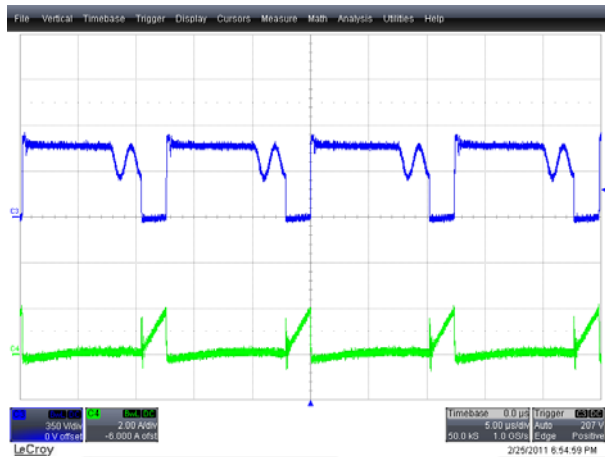
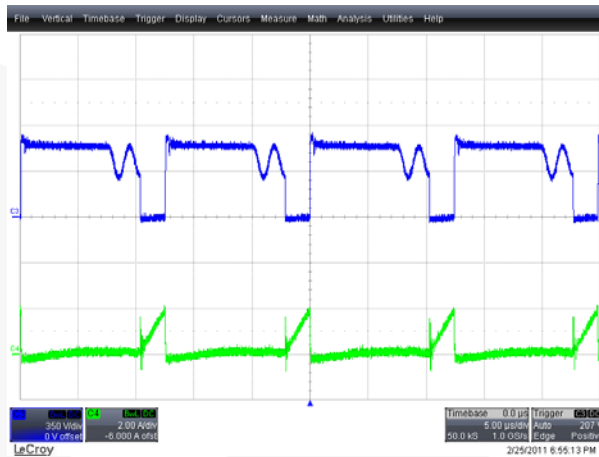

Figure 39. 90 V_{AC} / 60 Hz, CH3 (Blue): $V_{DS}(QR)$, CH4 (Green): $I_{DS}(QR)$
Figure 40. 277 V_{AC} / 60 Hz, CH3 (Blue): $V_{DS}(QR)$, CH4 (Green): $I_{DS}(QR)$
Figure 39 and Figure 40 show the V_{DS} and I_{DS} waveforms of the MOSFET (QR) at different input voltage conditions.